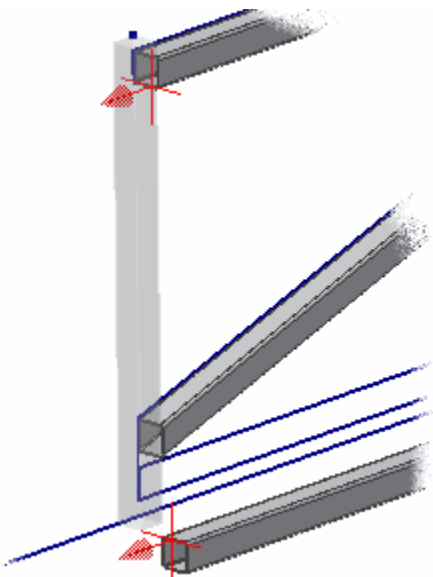

Figure 16: Second Face/Face flush constraint.
4. Add a second Flush constraint between the end faces of the two tubes as highlighted in Figure 16.